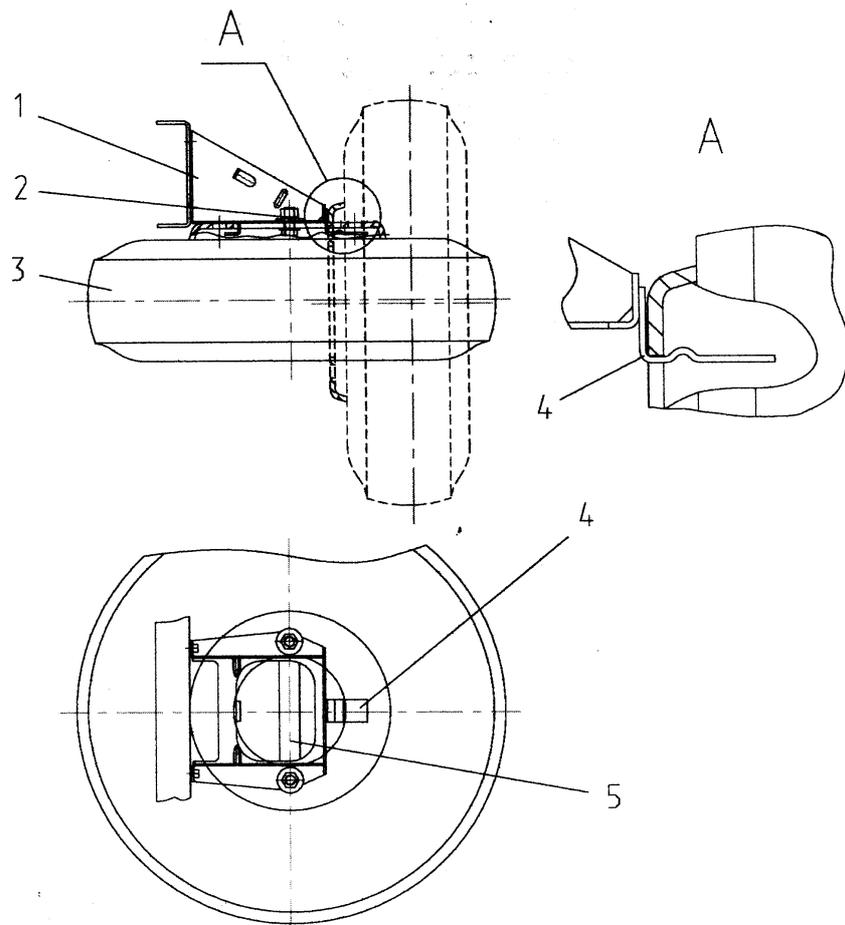

Fig. 6. Spare wheel securing
- Install the wheel central hole on the angle bar, as shown in Fig.6.